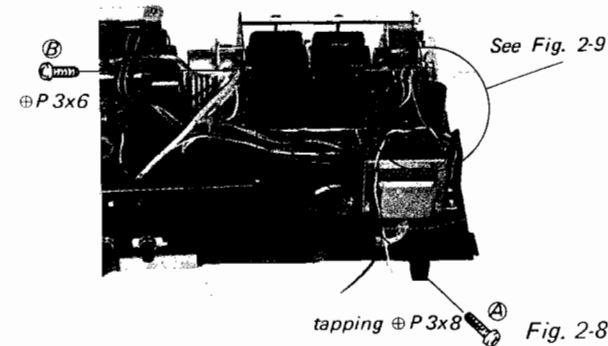

Fig. 2-8
3. Remove the screw labeled (A) in Fig. 2-8 and take off the terminal cover.
5. Remove the screw labeled (B) in Fig. 2-8 to remove the braided wires (or unsolder the braided wires).